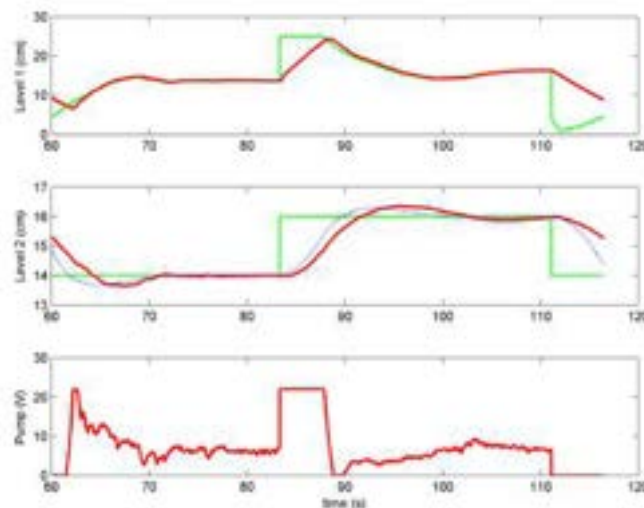

Figure Ans.4.2: Measured closed-loop ball position control response.
- B-5 The experimental procedure was followed correctly if a response similar to Figure Ans.4.2 was obtained.
- K-2 The closed-loop position response is shown in Figure Ans.4.2. You can generate this using the `plot_tanks_2_rsp.m` script.
K-1 As shown in Figure Ans.4.2, the measured response eventually settles at the setpoint, thus